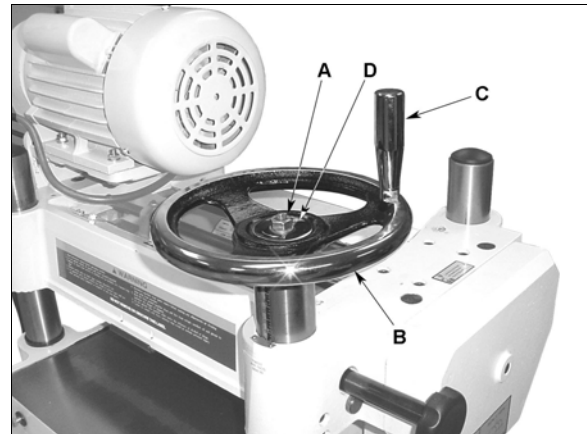

Figure 4
2. Place the handwheel (B, Fig. 4) onto the shaft; making sure it is oriented so the handwheel slips over the key.
3. Remove the adhesive backing from the *direction label* supplied with the hardware bag for the handwheel. Place the label onto the shaft and press it on the handwheel (D, Fig. 4).
5. Mount the handle (C, Fig. 4) for the handwheel in the threaded hole in the handwheel, and tighten with a wrench placed over the flat (12mm) on the handle.